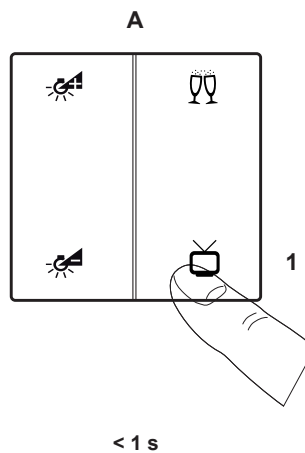

Figure 28: Scene call-up
- Switch on scene (in this example "Scene TV") by briefly pressing the button on the push-button module (Figure 28, A-1)